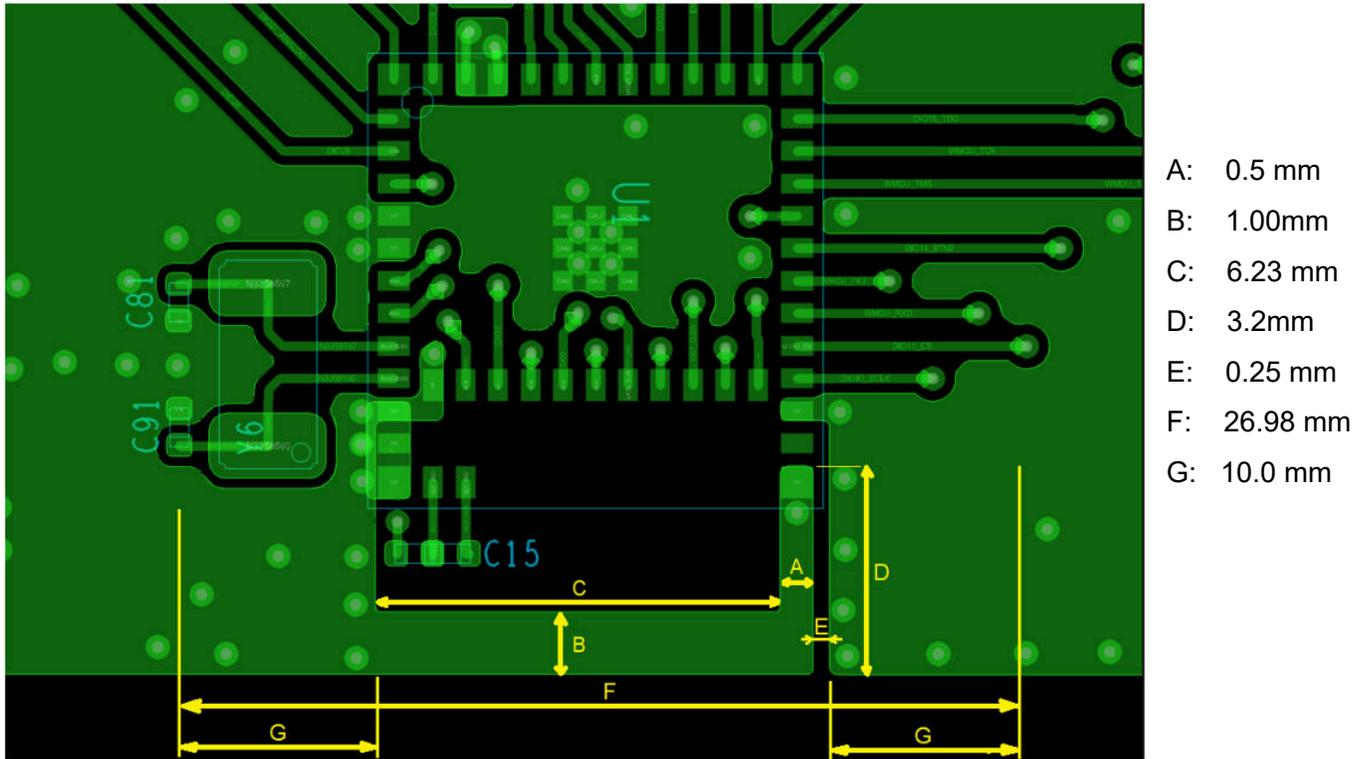

图 10-4. Module Layout Guidelines
It is critical that the RF section be laid out correctly to ensure optimal module performance. A poor layout can cause low-output power and sensitivity degradation.  图 10-4 shows the RF placement and routing of the CC2651R3SIPA module with the 2.4-GHz integrated antenna.
- Dimensions A thru G in 图 10-4 must be strictly adhered to for optimal RF performance
- The module must have a minimum 10-mm ground plane on either side of the module on all layers as shown with dimension G in 图 10-4